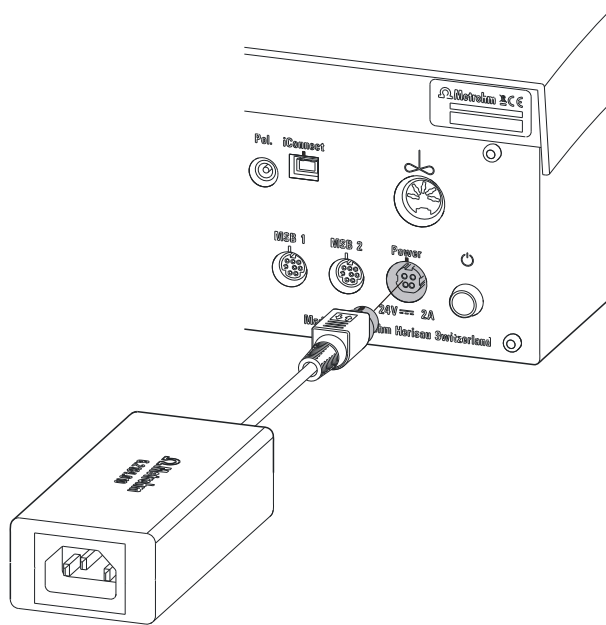

Figure 3 Connect power supply unit
- 1 Connect the plug of the external power supply unit with the power socket of the Ti-Touch (see figure 3, page 14).